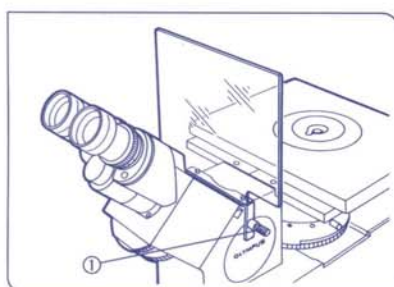

Fig. 18
## 11 Mounting the UV Protective Shield (Fig. 18)
1. Rotate the clamping knob ① on the UV protective shield to loosen the knob.
2. Place the UV protective shield on the microscope frame's observation tube holder as shown in Fig. 18.